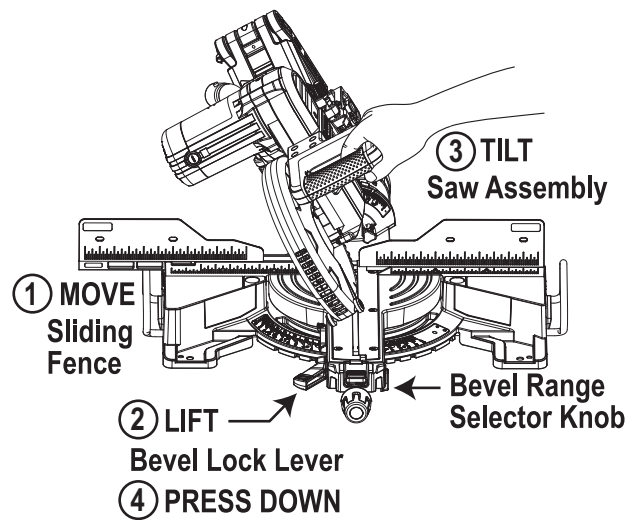

Figure 51
1. Move the left sliding fence out to clear saw assembly and relock (Figure 51).
1. Move the right sliding fence out to clear saw assembly and relock (see Figure 51).
1. Move the left and right sliding fences out to clear saw assembly and relock (see Figure 51).